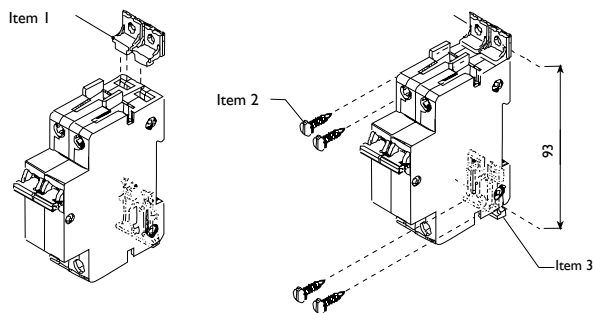

Figure 1
1. Mount item 1 onto circuit breaker as shown in figure 1.